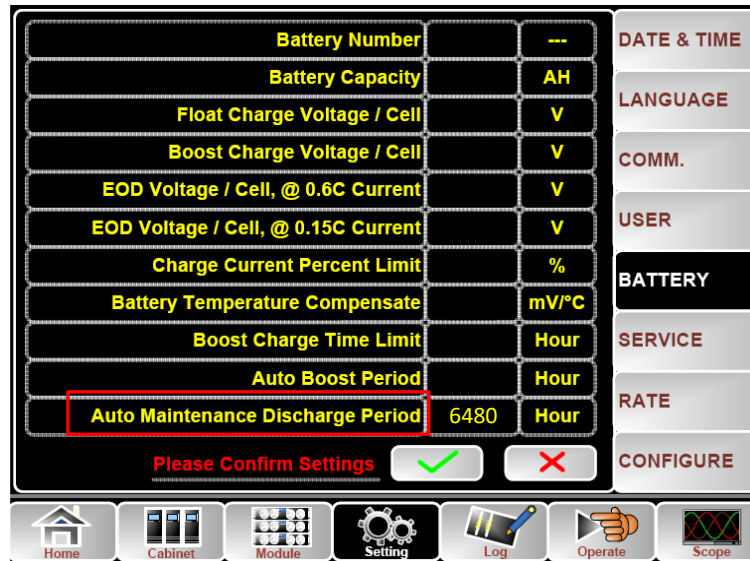

Figure0-4 Setting period for battery auto discharge
- (b) Setting period for battery auto discharge. Enter the “BATTERY” page of the Setting (See Figure0-4), Set the period time in the item “Auto Maintenance Discharge Period” and confirm.